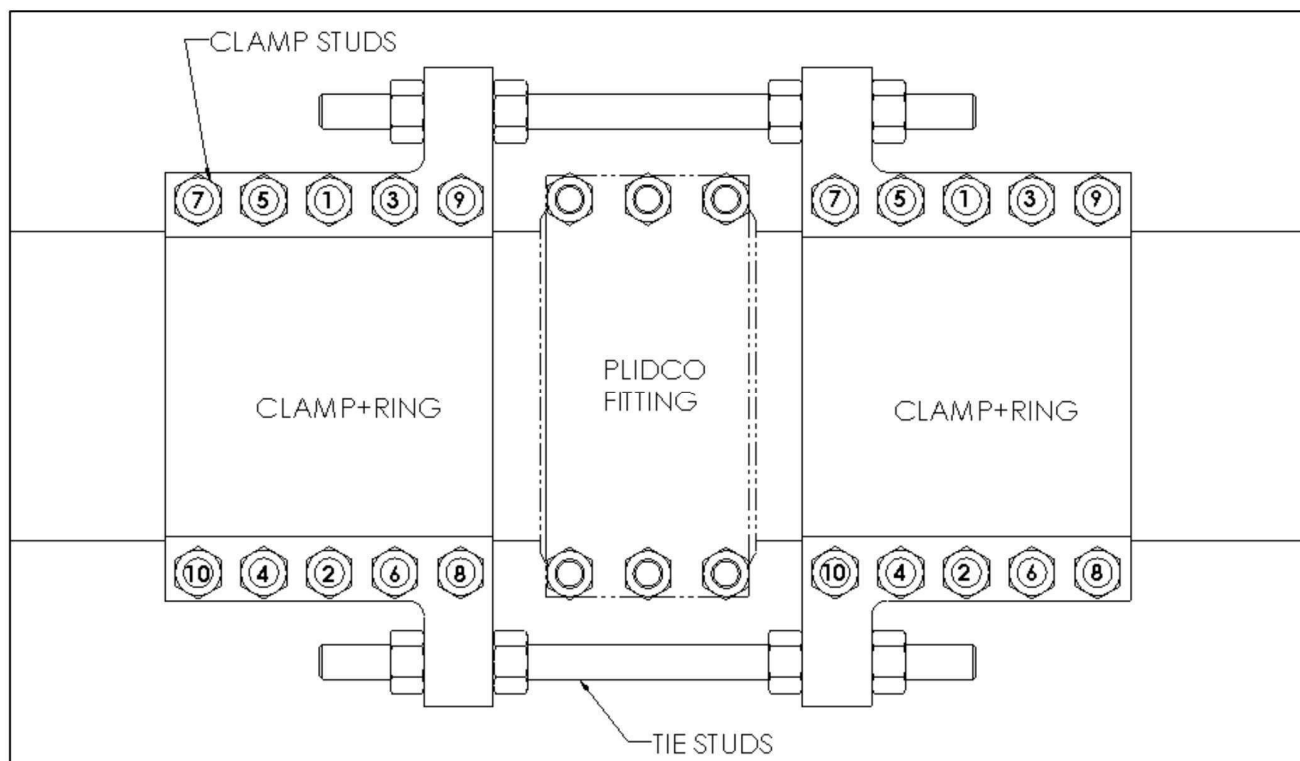

Figure 6
10. Torque the clamp studs and nuts on the PLIDCO Clamp+Ring uniformly, as indicated by the **Torque Chart for PLIDCO Clamp+Rings**. The best results are obtained by maintaining an equal gap all around the side bars while tightening the studs. Ensure there is full nut engagement by having a minimum of 1/4 inch (6.4 mm) of stud extending beyond the nut. The sequence for torqueing the studs should follow the pattern shown Figure 6, and should be executed repeatedly as follows: